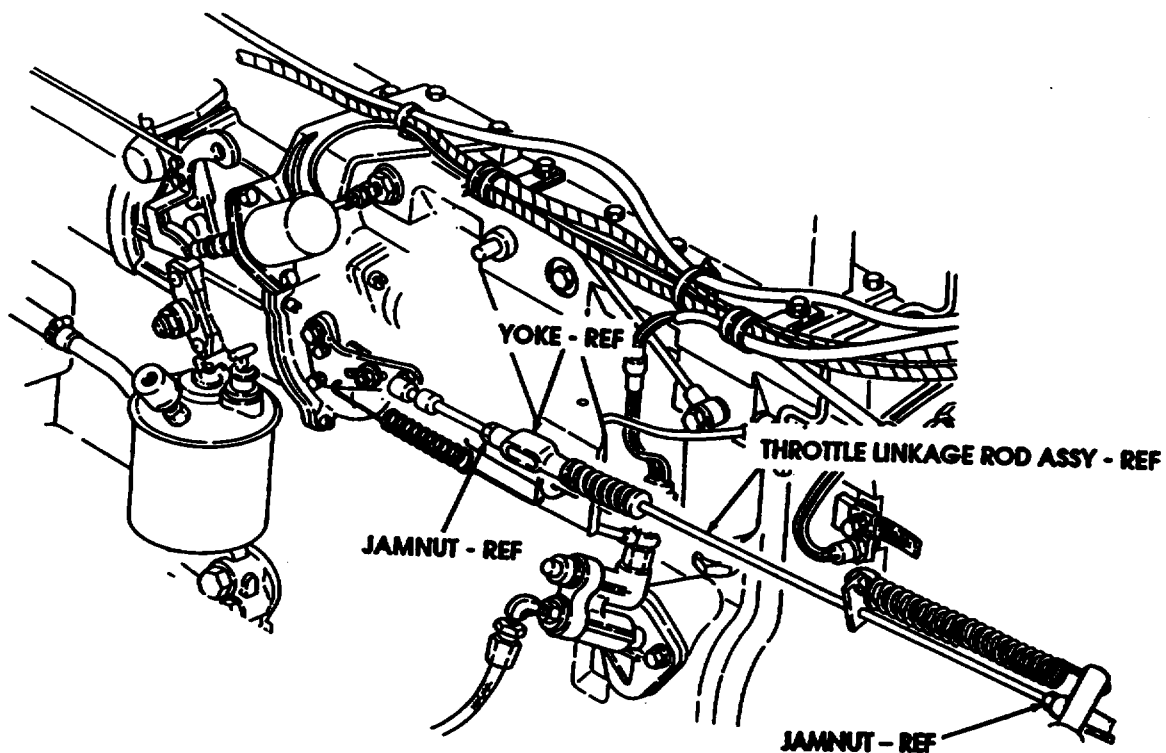

Figure 12
- (2) Loosen jamnut and turn yoke until engine idle is within limits. If necessary, turn throttle linkage rod assembly (12363294-2) as shown in figure 12. Tighten jamnuts.
- (3) Depress accelerator pedal and check that engine speed reaches 2100-2300 rpm. If necessary, loosen jamnut and adjust stopscrew on cab floor until proper engine speed is reached. Refer to Section 'B', step '8".
- (4) Check modulator cable adjustment L(TM 9-2320-358-24&P).
- a. When installed correctly, the Accelerator Linkage Modification Kit will appear as shown in figure 12.